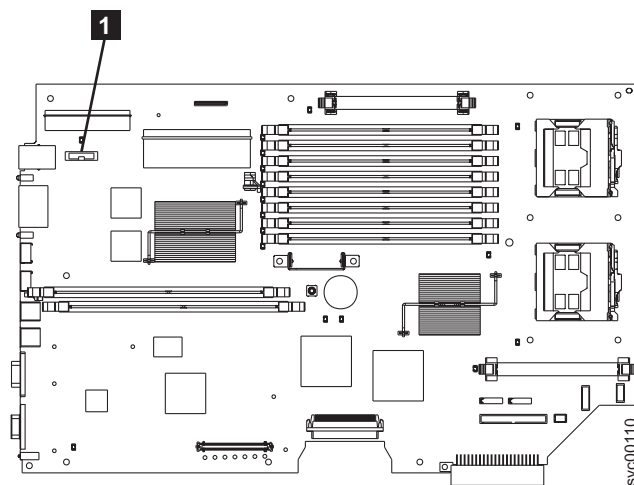

Figure 135. Location of the CMOS battery on the SAN Volume Controller 2145-8F2 or the SAN Volume Controller 2145-8F4
5. Locate the battery **1** on the system board. Figure 135 shows the location of the battery.